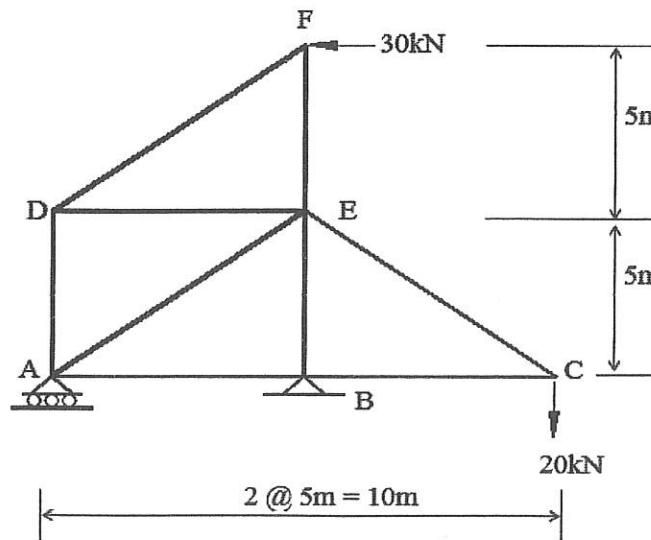

Figure B2 /Rajah B2
- (b) Identify whether the truss shown in **Figure B2** is statically determinate or indeterminate.